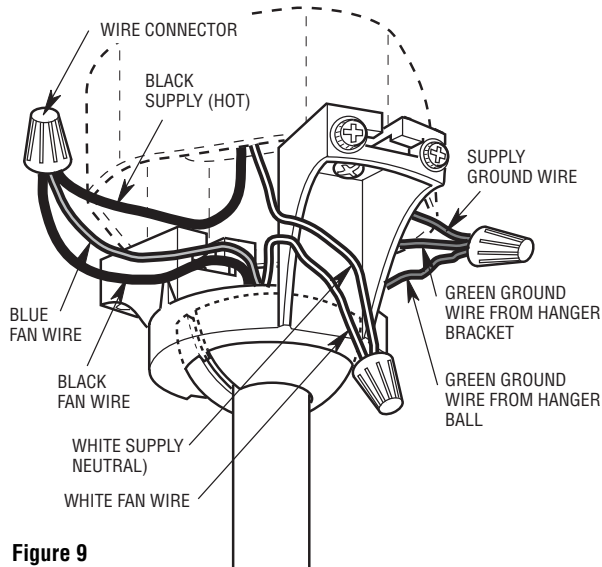

Figure 9
- Connect the green grounding lead from the hanger ball and the green grounding lead from the hanger bracket to the grounding conductor of supply (this may be a bare wire or wire with green colored insulation) (Figure 9). Securely connect wires using wire connectors supplied.
- 2. Securely connect the fan motor white wire to the supply white (neutral) wire using wire connector supplied (Figure 9). Securely connect the fan motor black wire and blue wire to the supply black (hot) wire using wire connector supplied (Figure 9). After connections have been made, turn leads upward and carefully push leads into the outlet box, with the white and green leads on one side of the outlet box and the black and blue leads on the other side of the outlet box.